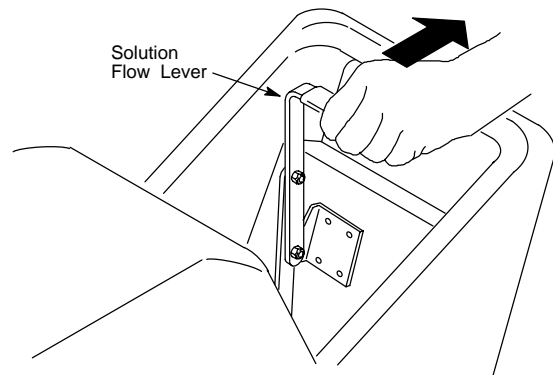

FIG. 9.
- To start solution flow, pull Solution Flow Lever completely backwards. You can regulate the amount of flow by pushing lever forward (*Figure 9.*).